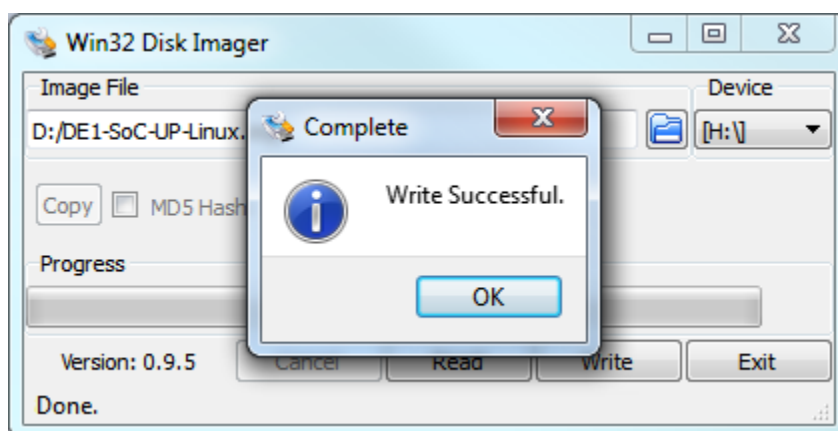

Figure 2. Win32 Disk Imager upon successfully writing the microSD card
4. Click **Write** to write the microSD card. If prompted to confirm the overwrite, press **yes**. Once the writing is complete, you will see the success dialog shown in Figure 2.